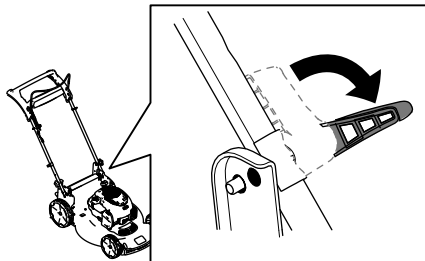

Figure 18
3. Disengage the handle locks (Figure 18).